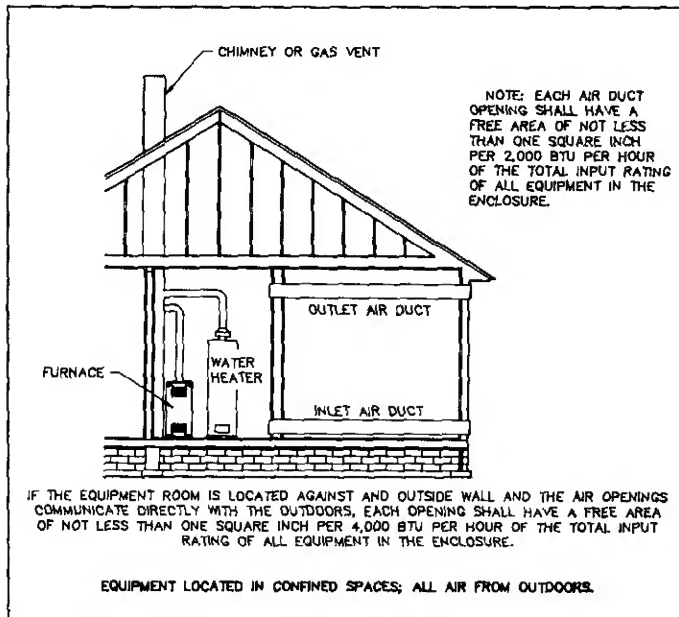

FIGURE 14
5. If combustion air ducts will run horizontally, ducts and each opening must have a minimum free area of one square inch per 2,000 Btuh total combined input rating. You must allow for all gas appliances within the furnace space. See Figure 14.